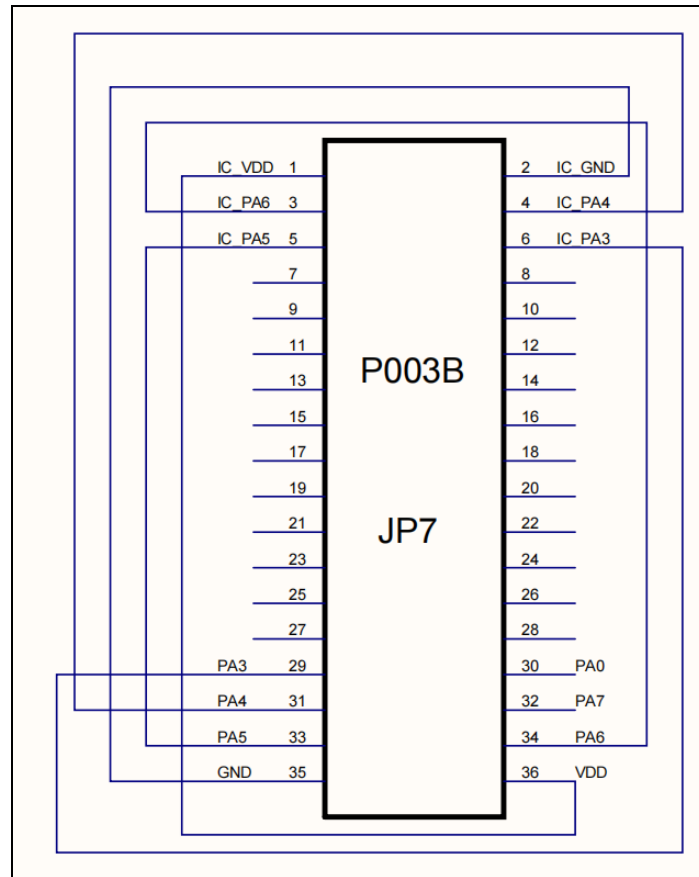

Fig.29: schematic diagram of PMS163-S08 Jumper7 when using P003B
2. As shown in figure 29, it is the Jumper7 connection method.